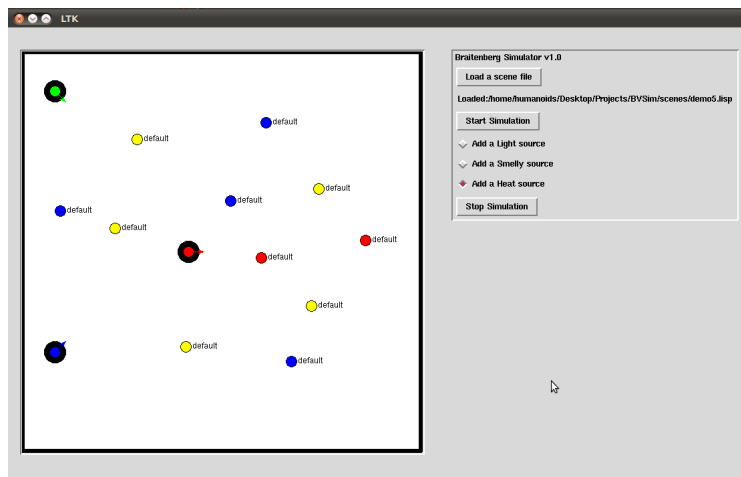

Figure 4: Main interface of *BVSim*
- *BVSim* consists of a main GUI, as shown in Figure 4. It is entirely written in Lisp[3] with a binding to Tk (Ltk)[2] and have been tested in Ubuntu 9.10, using SBCL 1.0.29.11, LTK 0.91 and Slime